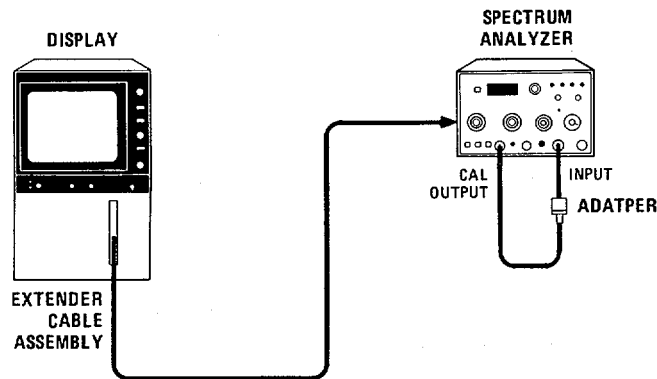

Figure 5-6. Crystal and LC Bandwidth Filter Adjustment Test Setup
2. Connect equipment as shown in Figure 5-6.